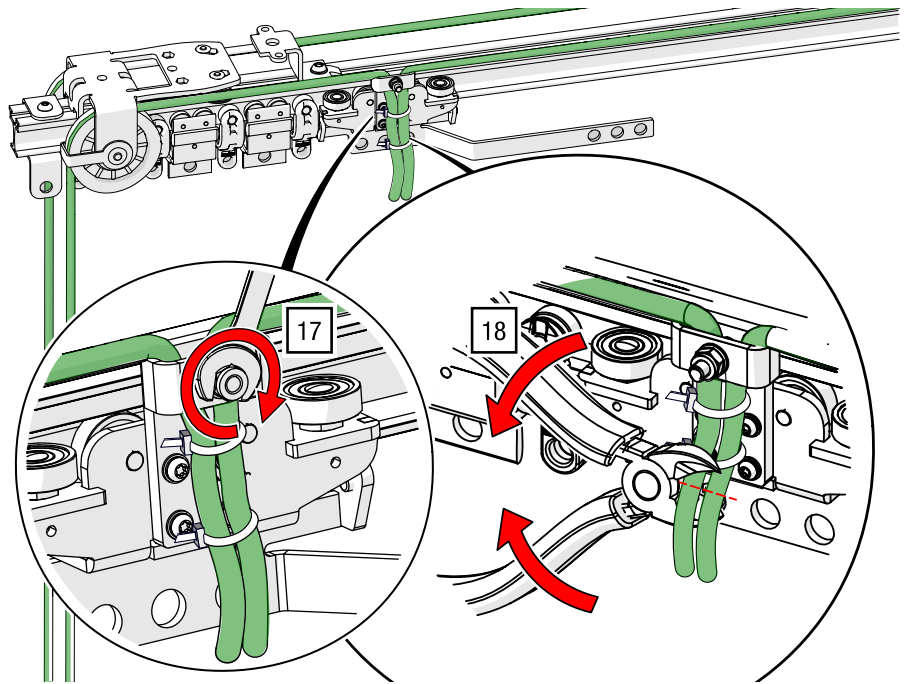

Fig. 83: Side cord operation – Fasten, trim, and burn the ends of the cord
17. Clamp both cord ends in the second master runner with an open-end wrench AF 10 at 11 Nm and tie them together with two tie wraps (see Fig. 83).
18. Cut off the ends of the cord with a wire cutter and burn the cut surface, so that the rope does not unravel (see Fig. 83).